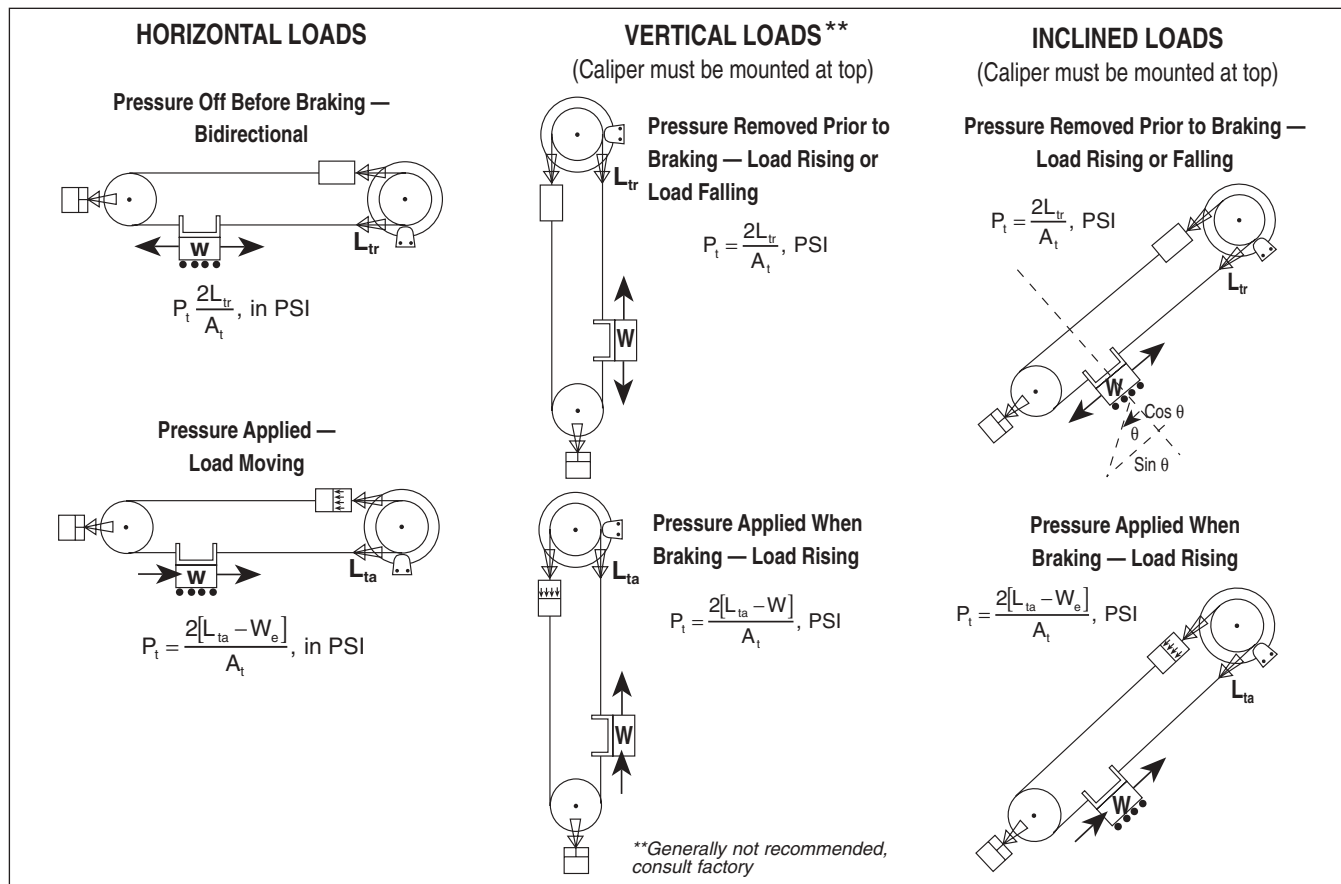

Figure 1.
3. *Calculate the tangential braking force required. This is (F_{tr}) when pressure is removed prior to braking, or (F_{ta}) when pressure is still applied when braking. Refer to illustrations in Figure 1.*
5. Calculate tensioner pressure setting (Figure 1.) based on type of load configuration where: